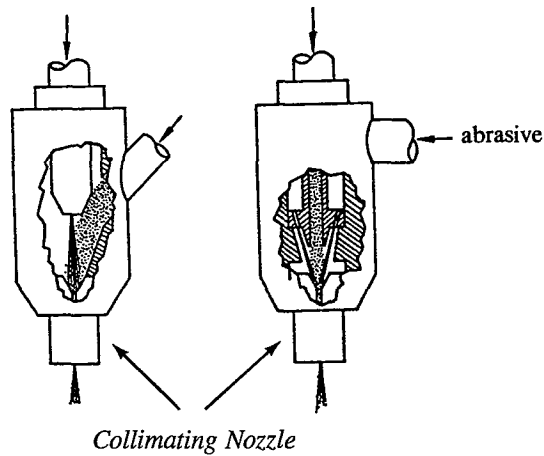

Figure 25. Abrasive Mixing Nozzle Assembly
13.8 **Collimating Nozzle** - The secondary nozzle used below the mixing chamber to refocus the stream of high pressure water and abrasive in conventionally mixed abrasive waterjet systems (Figure 25).